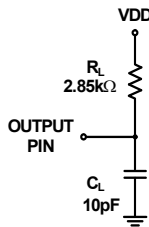

FIGURE 4. EQUIVALENT LOAD CIRCUIT
- 11. During characterization, tDISABLE is measured from the release point with a 10pF load (see Figure 4) and the equivalent timing using the AD7440/450A loading (25pF) is calculated.